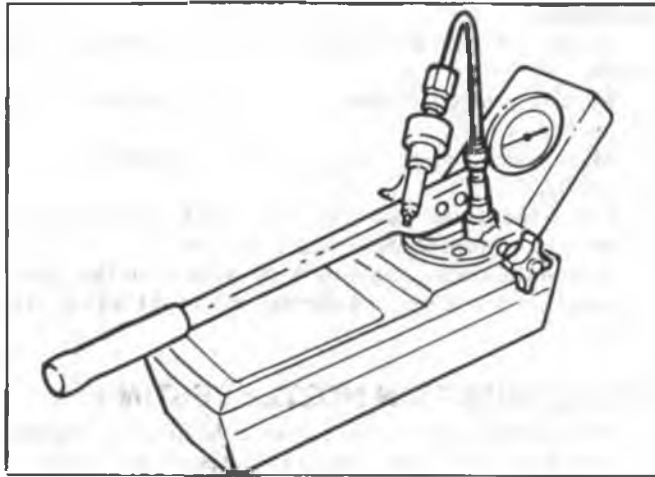

Fig. 5-7 Nozzle Testing
4. Fill and flush the nozzle holder assembly with test oil by activating the lever repeatedly and briskly. This will apply test oil to all functionally important areas of the nozzle and purge it of air (Fig. 5-7).